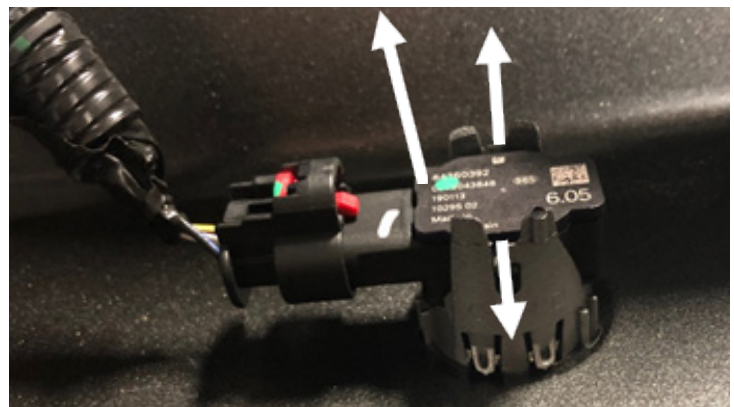

Figure 19
18. Carefully remove the four sensors and sensor housings from the bumper by spreading the housing clips out and pushing the sensor out simultaneously. (Figure 19)